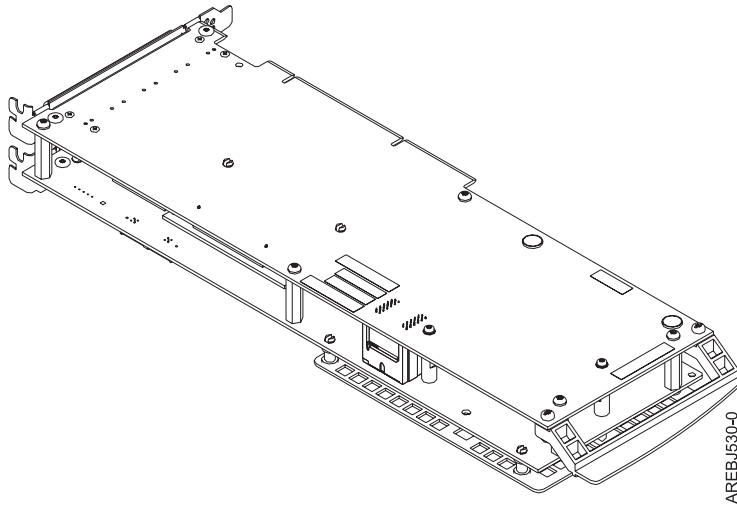

Figure 19. 572F/575C card set adapter
2. Place the 572F/575C card set adapter on an ESD protective surface and orient it as shown in Figure 19.